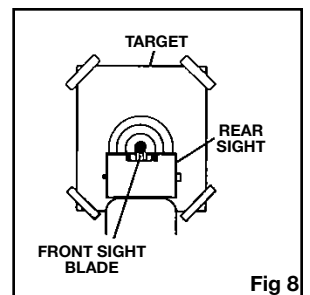

Fig 8
- The airgun is correctly aimed when the front sight blade is positioned exactly in the center of the notch of the rear sight. The top of the front sight blade should be even with the top of the notch in the rear sight. The bulls-eye should appear to rest on the top of the front sight. (Fig. 8)